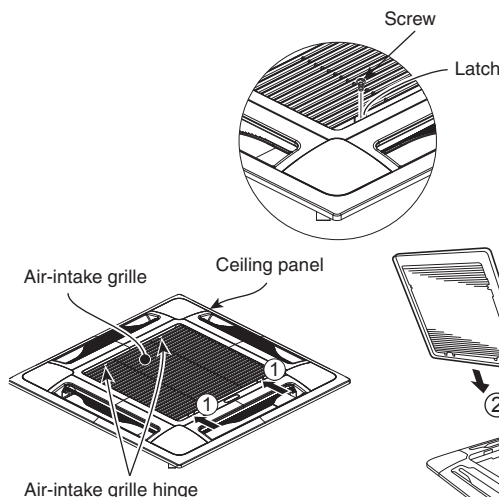

Fig. 3-40
- (1) Remove the air-intake grille and air filter from the ceiling panel.
- a) Slide the air-intake grille catches in the direction shown by the arrows ① to open the grille. (Fig. 3-40)